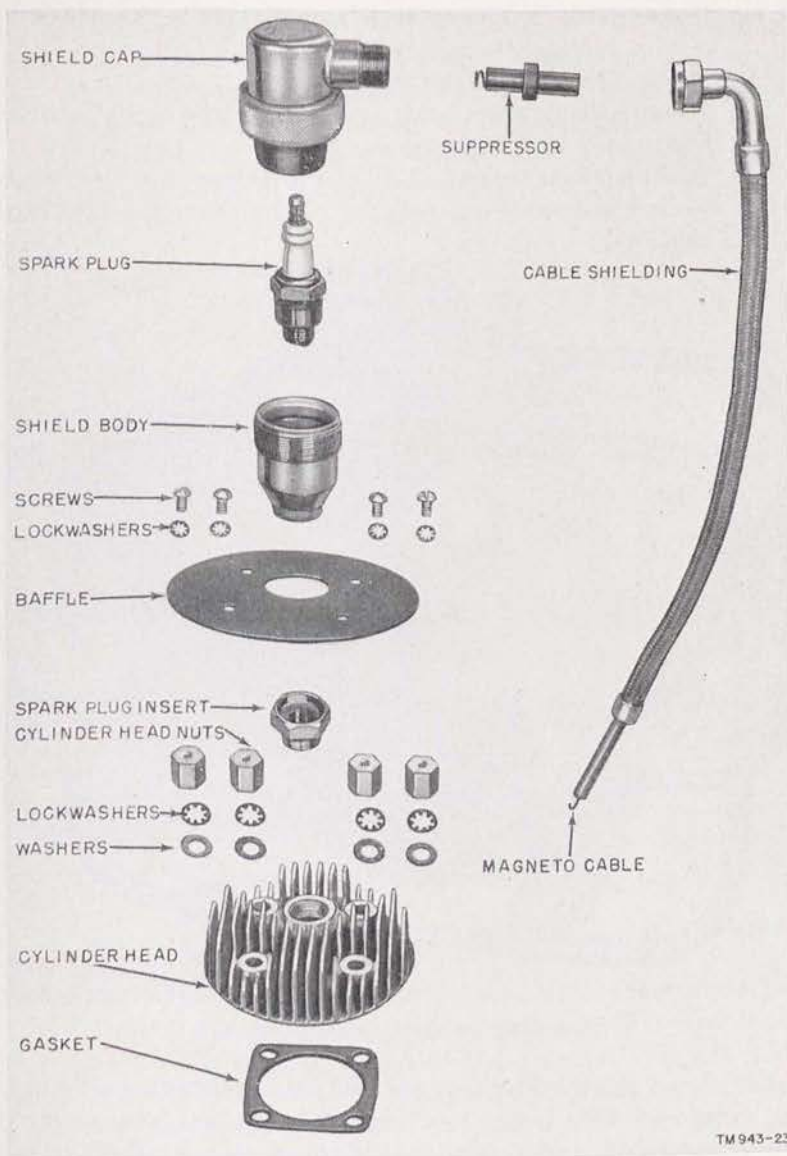
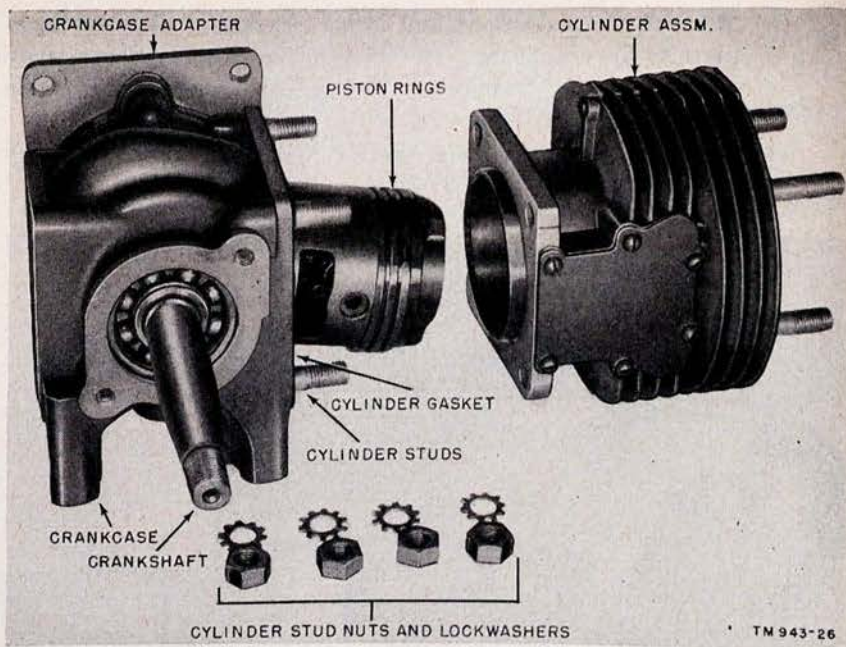

Figure 23. Spark plug, shield, and cylinder head.
Figure 26. Cylinder disassembled from crankcase.
- (1) Unscrew the ignition cable shielding nut from the spark plug shield cap (fig. 23) and remove the suppressor resistor.
- (2) Unscrew and remove the spark plug shield cap.
- (3) Unscrew the spark plug from the cylinder head and remove the spark plug shield body.
- (4) Unscrew the four roundhead screws and lockwashers and remove the cylinder head baffle plate.
- (1) Remove the four nuts, lockwashers, and plain washers that attach the cylinder head to the cylinder and lift off the cylinder head. Remove the spark plug insert from the cylinder head (fig. 23).
- (2) Remove the cylinder head gasket.
- (3) Remove the four nuts that attach the cylinder to the crankcase and pull off the cylinder (fig. 26).